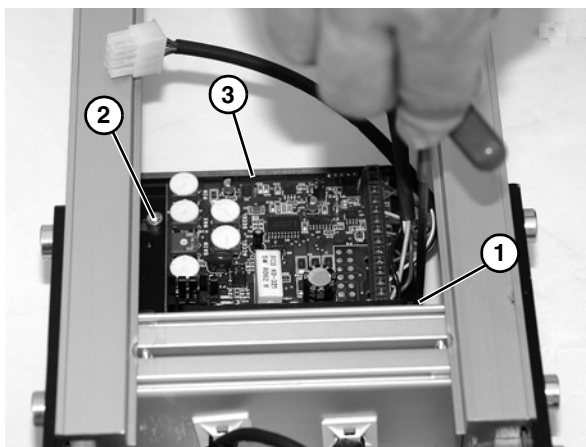

Figure 68
4. Remove hex head screw (Figure 68, item 1), and loosen hex head screw (Figure 68, item 2). Remove circuit board (Figure 68, item 3) from conveyor frame.